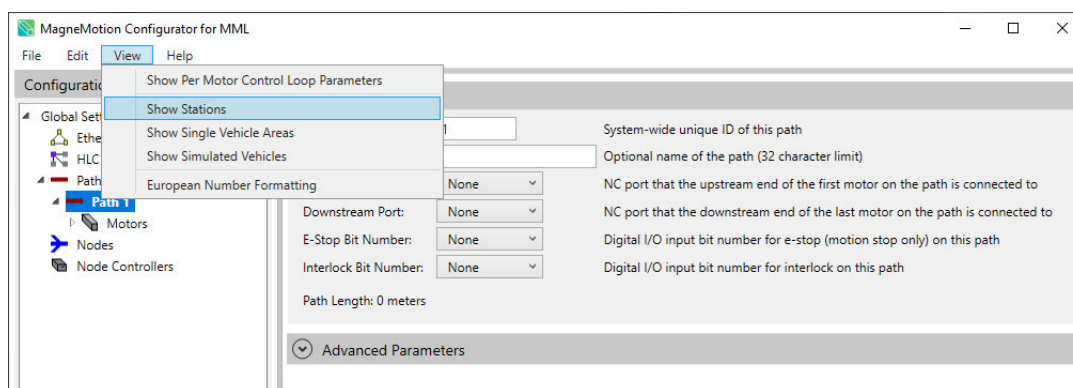

Figure 4-119: Show Stations Menu View Option
*A check mark is displayed before the **Show Stations**, see Figure 4-119, to indicate it is selected. When a path is expanded, the **Show Stations** element is listed.*